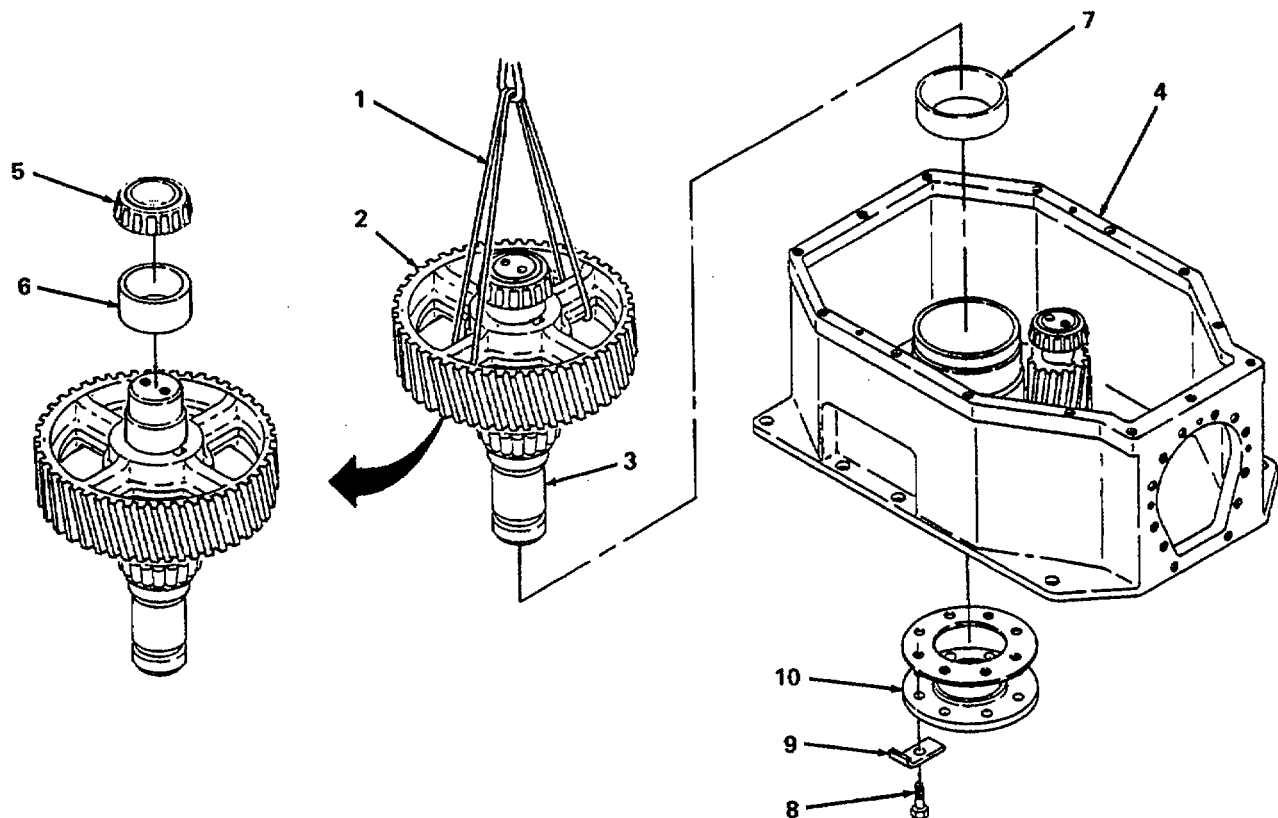

Figure 6-13. Low Speed Shaft Removal
(3) Remove and disassemble low speed shaft assembly.
(a) Attach lifting sling (1, figure 6-13) to spokes on low speed gear (2).